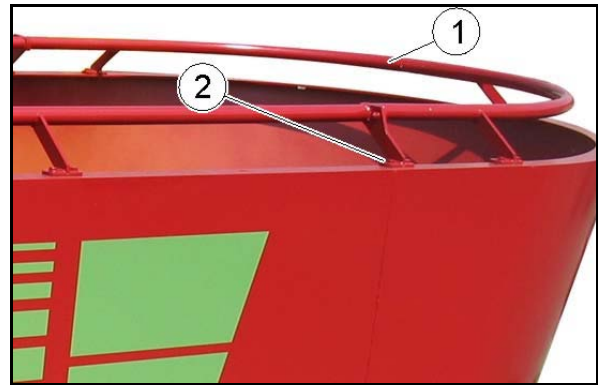

Fig. 24
- an elevated overflow ring (Fig. 24), screwed on the top edge of the container,